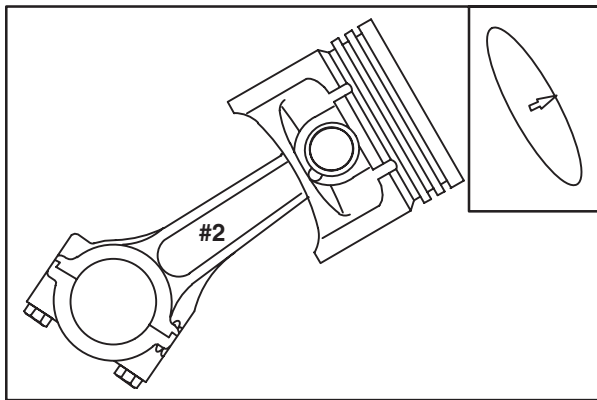

Fig. 9
3. Lubricate parts with engine oil. Assemble #2 piston and connecting rod, **Fig. 9**.